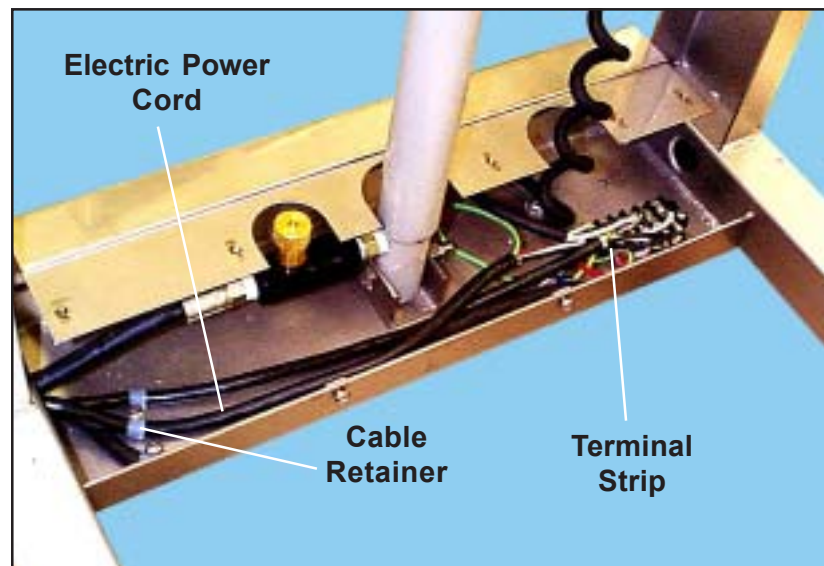

Figure 54. Electric Power Cord and Terminal Strip
6. With a Phillips screwdriver, remove the cable retainer and free the electric power cord (Figure 54).